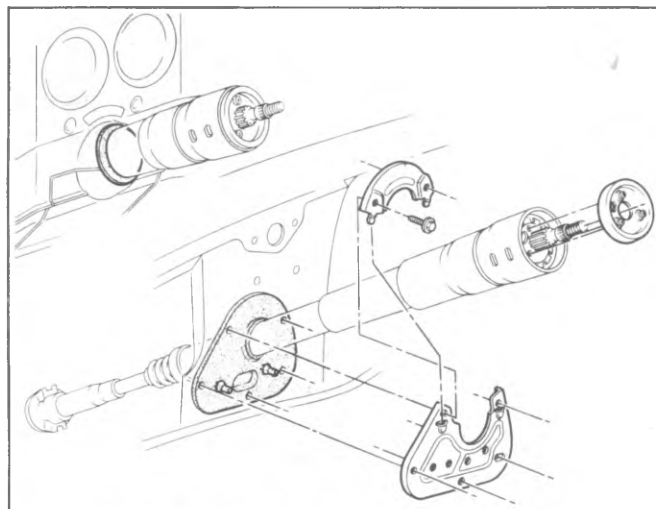

Fig. 3B-62-Steering Column Cover and Seal
1. Before replacing the switch, be sure that the lock is in the "Lock" position (fig. 3B-61); if it is not, a screwdriver (placed in the locking rod slot) can be used to move the switch to "Lock".